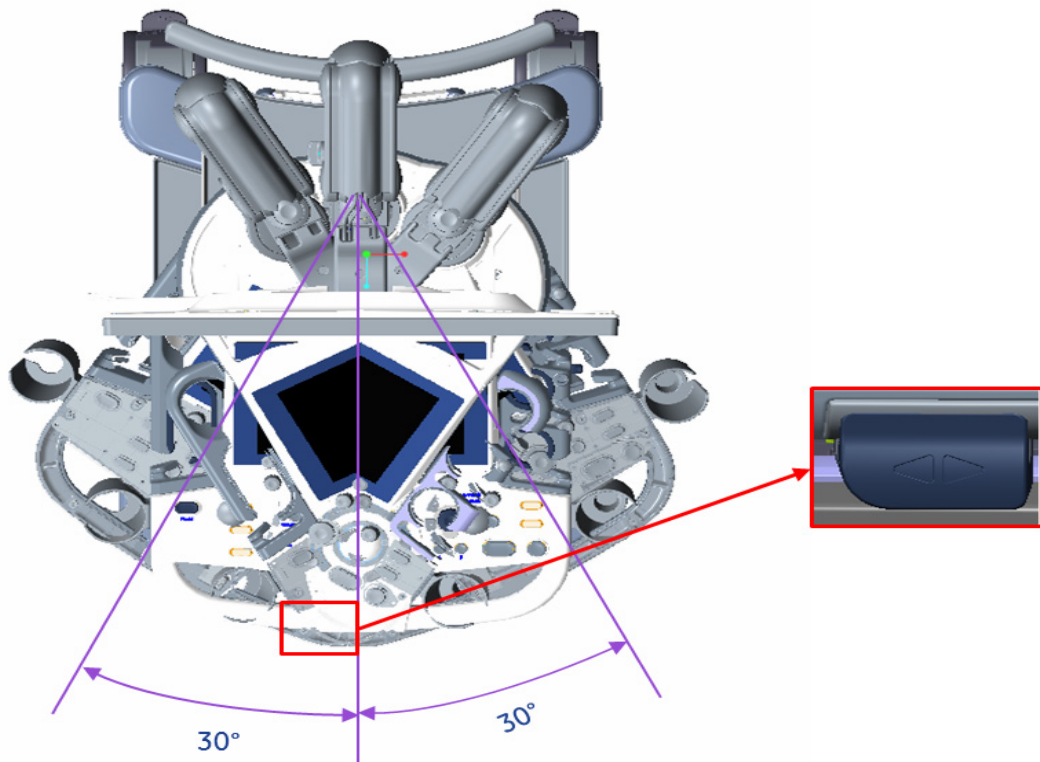

Figure 4-8 OPIO Swivel
- 1) Press 'a'. (see: Figure 4-8)
- 4) Press 'b' downward. (see: Figure 4-8)
- 8) Press 'c'. (see: Figure 4-8)